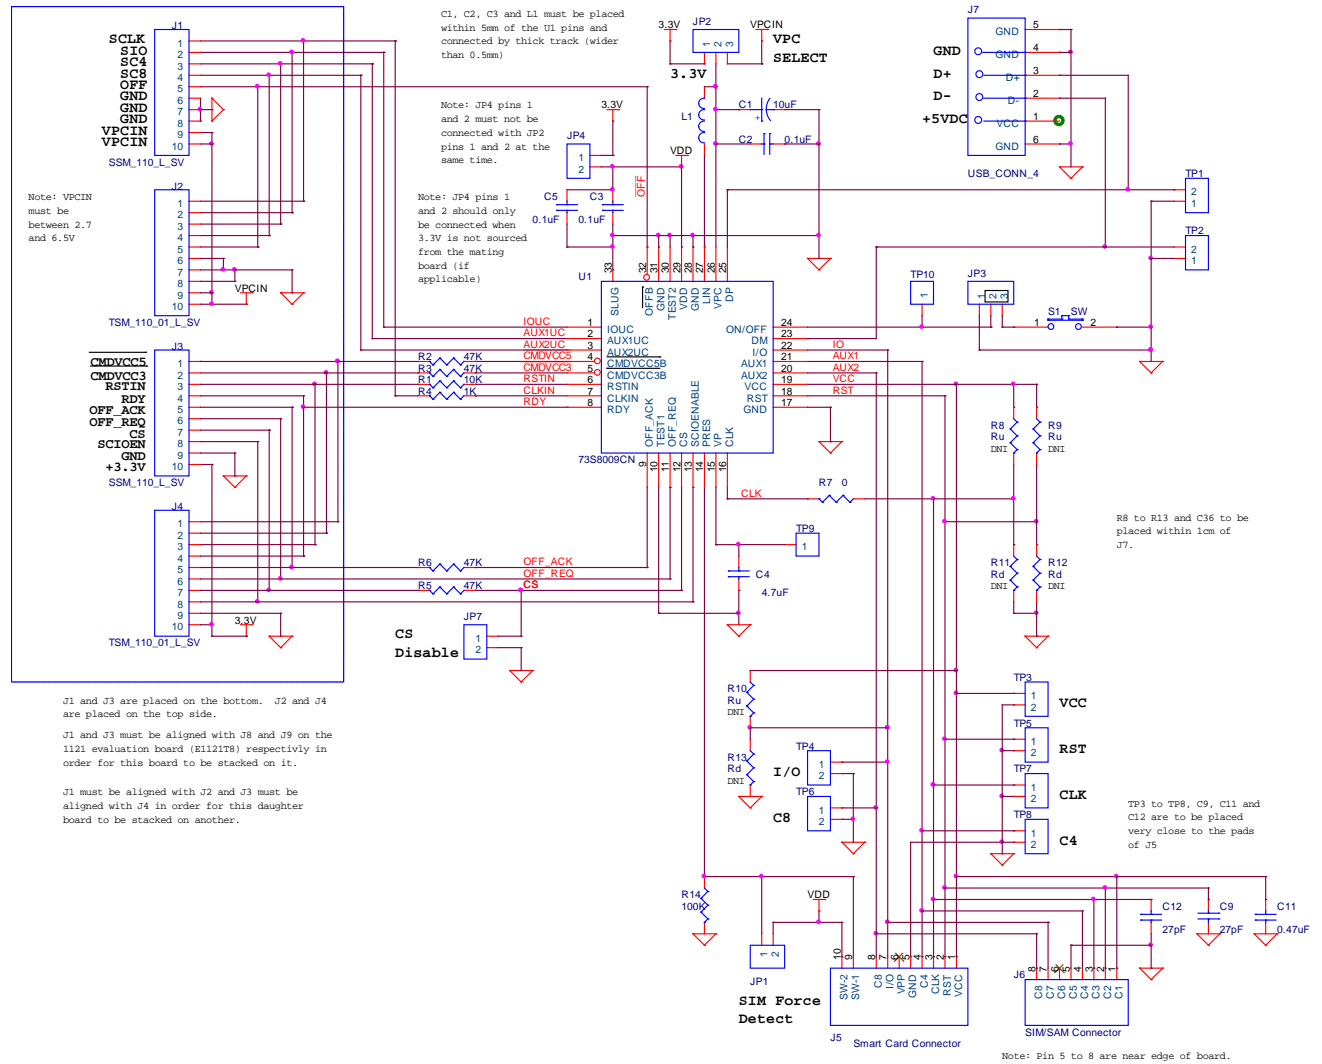

Figure 4: 73S8009CN Electrical Schematic
- Control signals to the device can be connected through J2 and J4. See Figure 2 and Figure 4.